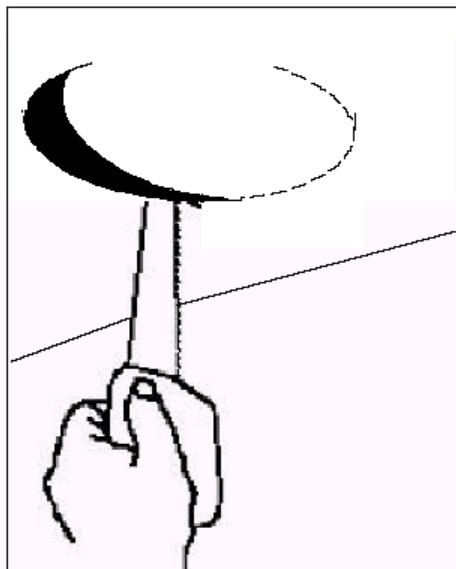

Figure 18
7.3) Cut out the ceiling material using an appropriate cutting tool (Figure 18).